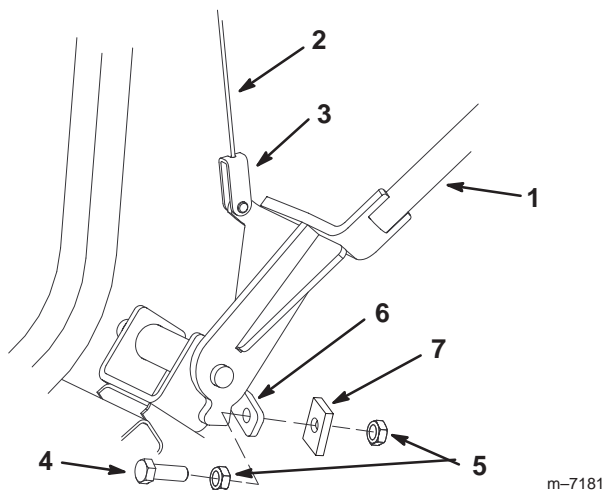

Figure 4
1. Remove the existing stop bolt and jam nuts from the bagger frame (Fig. 4).
2. Install the stop plate to the stop bracket using the bolt and jam nut previously removed (Fig. 4). Do not tighten.